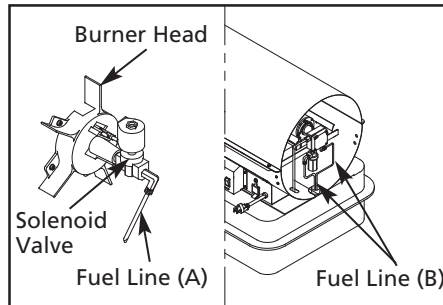

Figure 15 – Tighten Fuel Line
- Use 1/4" wrench and tighten fuel line (A) at solenoid valve and at pump (See Figure 15).